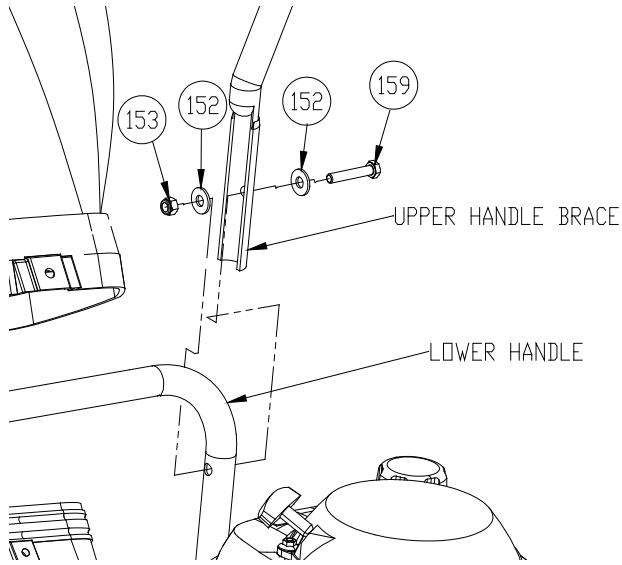

Fig. 3
- Attach upper handle brace to lower handle using corresponding hardware. Then repeat this step on the other side. (See Fig. 3 next page)